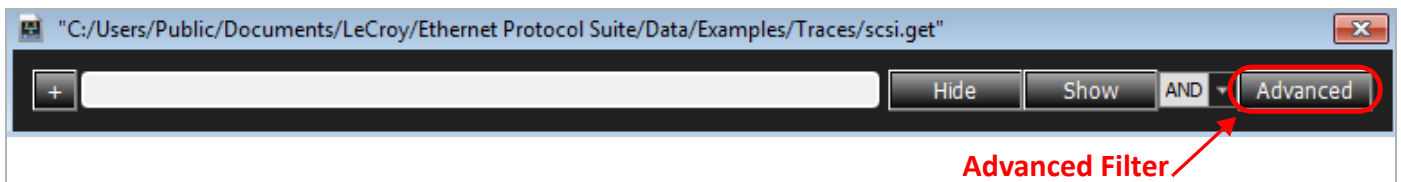
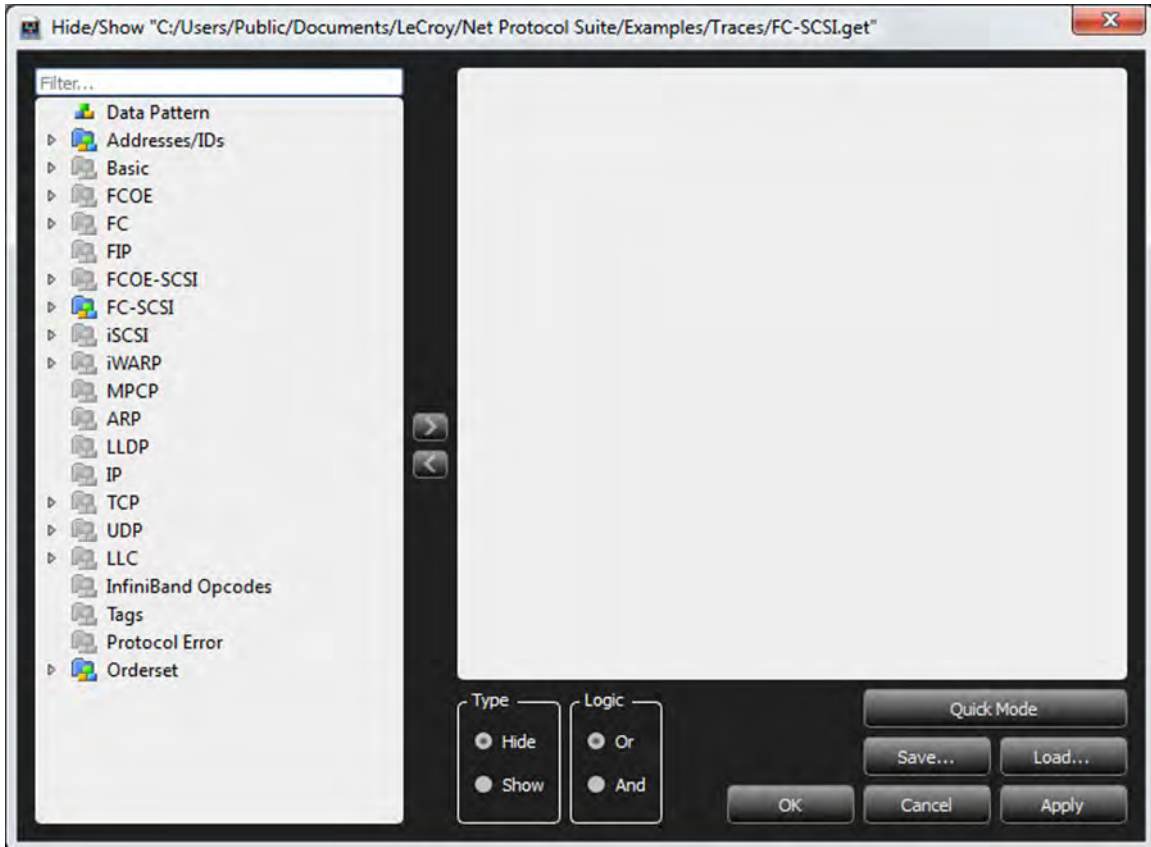

Figure 5.161: Quick Filter Dialog
Figure 5.163: Advanced Filter Dialog
To display the Quick Filter dialog (Figure 5.161), click the drop-down arrow  to the right of the **Enable Hide/Show** button on the toolbar or select **View → Hide/Show**. When Filter criteria are set, click the funnel icon on the Filter button to toggle the filters on and off.
Click the **Advanced** button (see Figure 5.161 or Figure 5.162) in the Quick Filter dialog to display the Advanced Filter dialog (Figure 5.163).
4. Select the command, double-click or right-click, and select **Match Fields**. The following filter dialog appears (Figure 5.163).